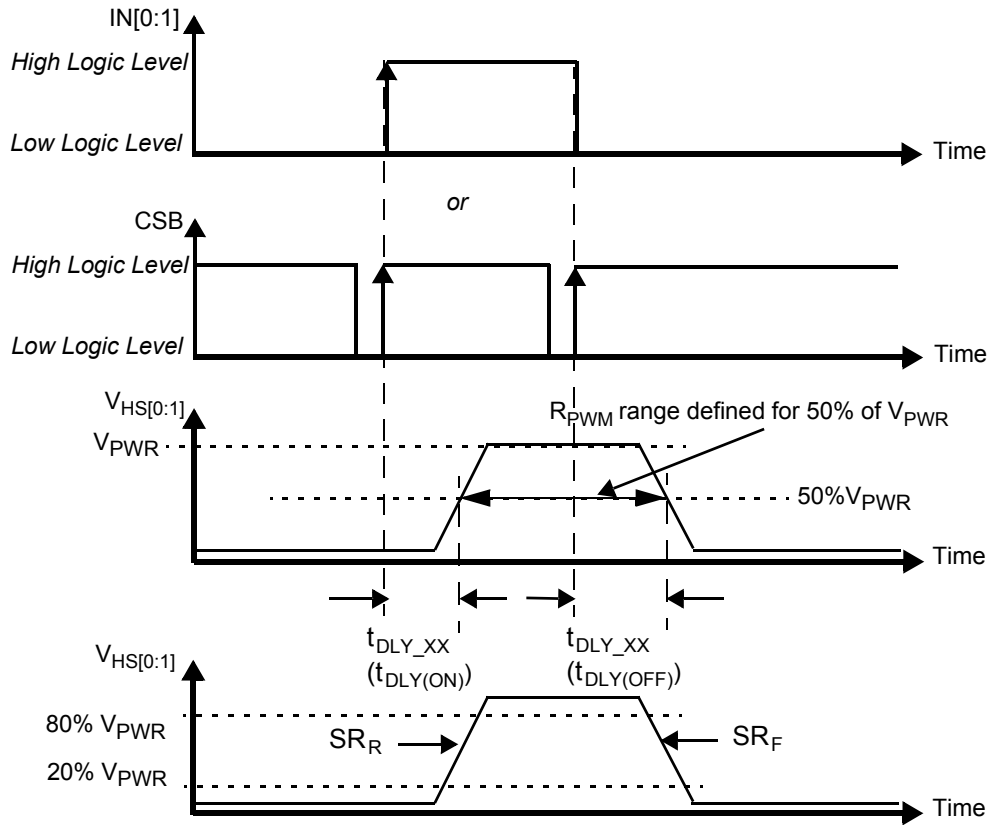
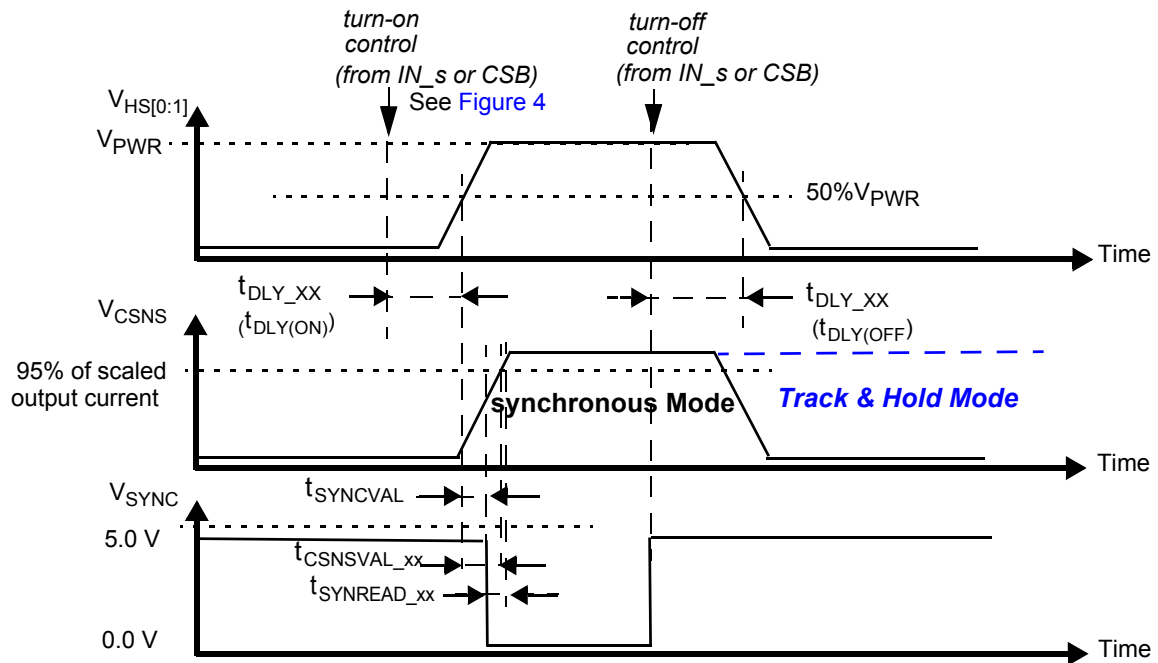

Figure 4. Output Voltage Slew Rate and Delay
Figure 9. Synchronous & Track-and-Hold Current Sensing Modes: Associated Delay & Settling Times
28. Rising and Falling edge slew rates specified for a 20% to 80% voltage variation on a 10.0 Ω resistive load (see Figure 4).
30. Time required to switch off the channel after detection of overtemperature (OT), overcurrent (OC), SC or UV error (time measured between start of the negative edge on the FSB pin and the falling edge on the output voltage until $V(\text{HS}[0:1]) = 50\%$ of V_{PWR}).
31. Settling time ($= t_{CSNSVAL_XX}$), SYNC output signal delay ($= t_{SYNCVAL_XX}$) and Read-out delay ($= t_{SYNREAD_XX}$) are defined for a stepped load current using a 10 Ω resistive load for $\text{CSNS_RATIO_s} = 0$. (see Figure 9 and Output Current Monitoring \(CSNS\)).
To synchronize current sensing with an external process, the SYNC signal can be connected to a digital input of an external MCU. SYNC is asserted logic low when the current sense signal is accurate and ready to be read. The current sense signal on the CSNS pin has the specified accuracy $t_{SYNCREAD_XX}$ seconds after the falling edge on the SYNC pin (Figure 9) and remains valid until a rising edge is generated. The rising edge that is generated by the SYNC pin at the turn-OFF instant (internal or external) may also be used to implement synchronization with the external MCU. Parameter $t_{SYNCVAL_XX}$ is defined as the time between the instant at the middle of the output-voltage rising edge ($HS[0:1] = 50\%$ of V_{PWR}), and the instant at which the voltage on the SYNC-pin drops below 0.4 V (V_{SOL}). The SYNC pins of different devices can be connected together to save micro-controller input channels. However, in this configuration, the CSNS function of only one device should be active at a time. Otherwise, the MCU does not determine the origin of the SYNC signal. The SYNC pin is open drain and requires an external pull-up resistor to V_{DD} .